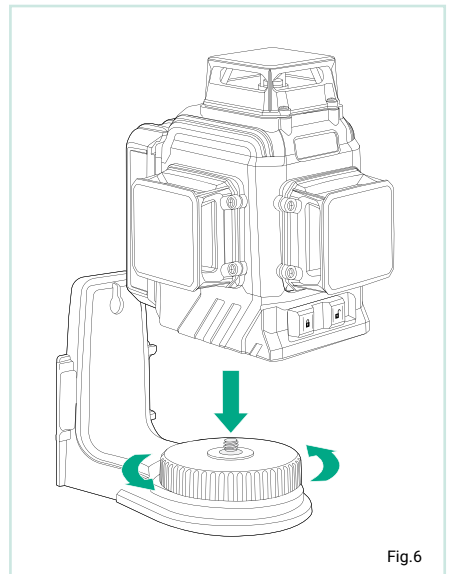

Fig.6
- Attach the laser level to the mount using the thumb screw (Fig. 6).